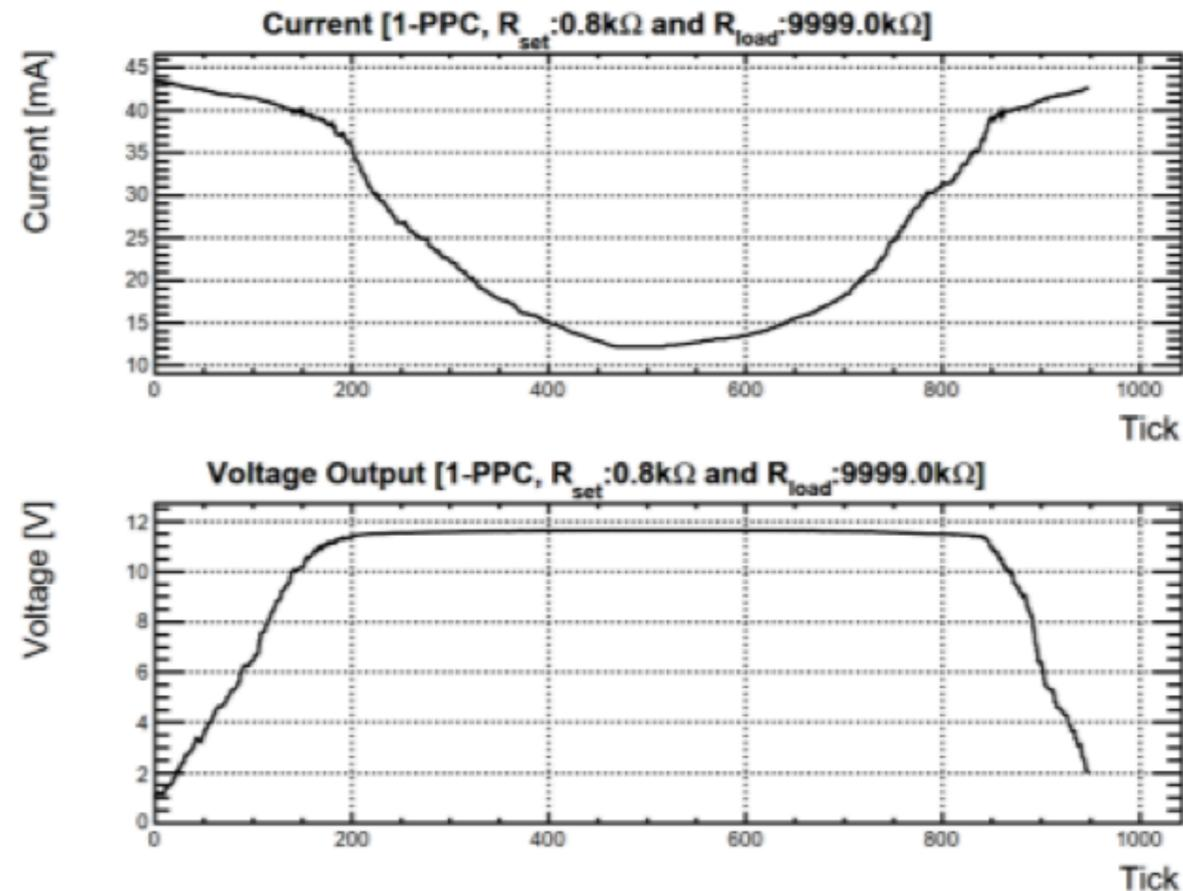
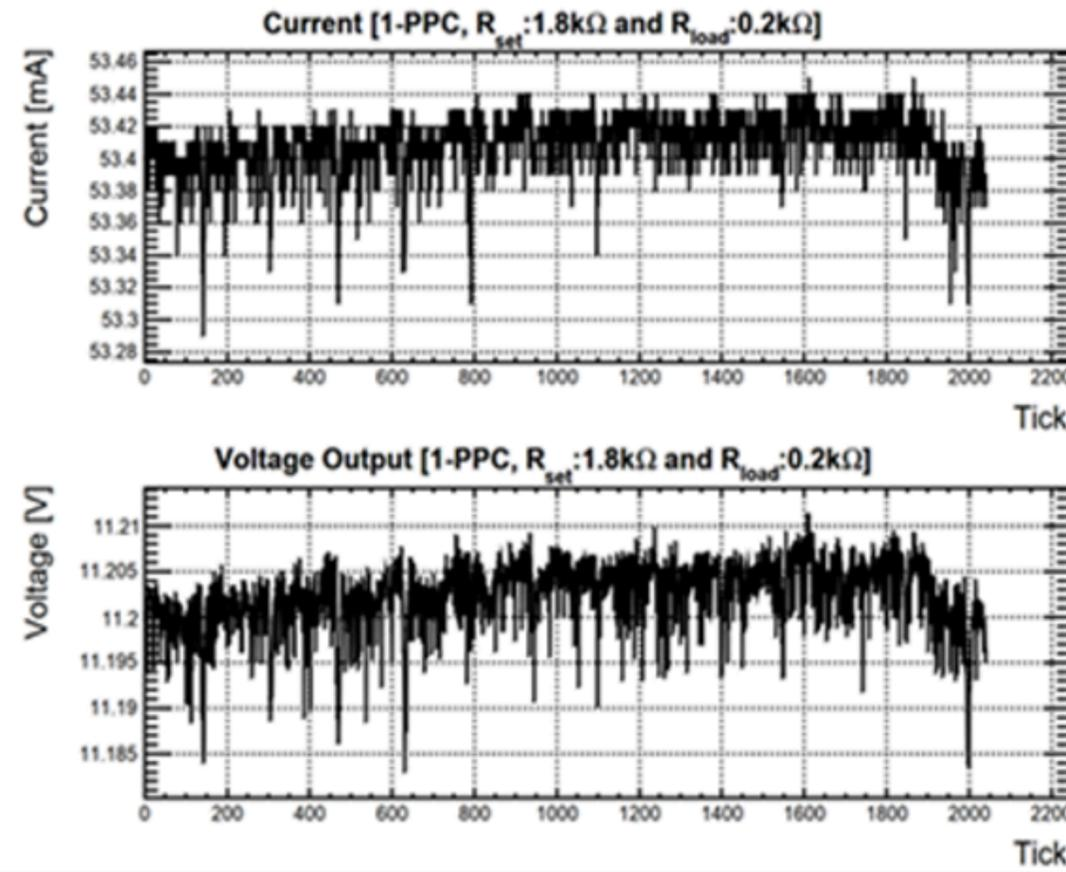

Figure 1 Power scan of PoF sub-unit
Figure 2 Voltage and current of PoF sub-unit
- Our present testing is showing very good results but more needs to be done on the prototype housing. The design is modular with a series of small PoF units summed to reach desired power. Figure 1 below show the result of scanning a load using single PoF cell (sub-unit) in an argon bath. We expect each PoF power unit to use 6 to 8 PoF cells. Figure 2 shows PoF voltage at SiPM in liquid argon (with no regulation unit).